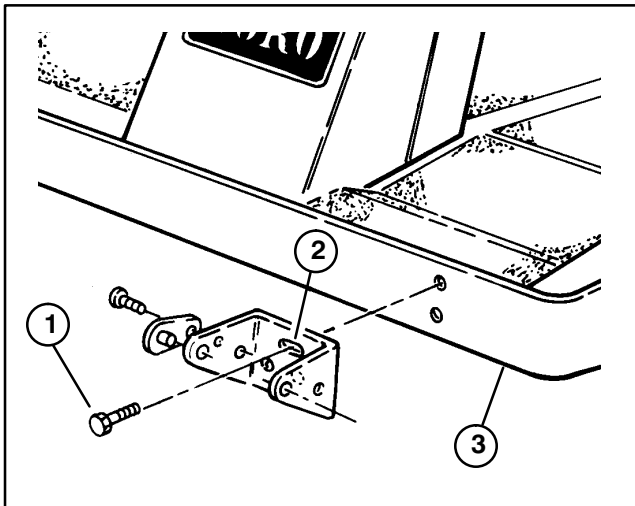

Figure 8
3. To install the mounting brackets, insert (2) 3/8-16 x 1" lg. flangehead capscrews through the slotted bracket holes. Thread the screws into the captivated frame nuts and torque to 45-50 ft-lb (Fig. 8).